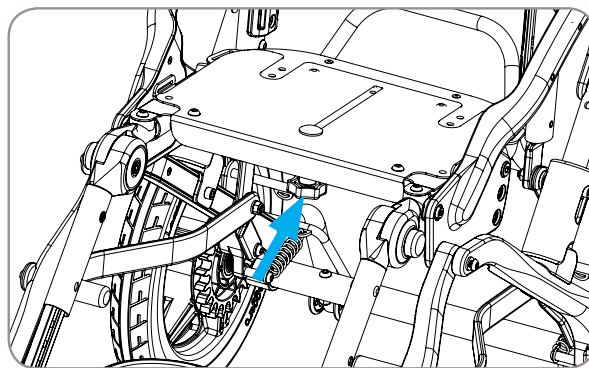

Figure 22, Single Knob 12" Chair
2. Loosen knob(s) under seat plate. Reference Figures 22 or 23.